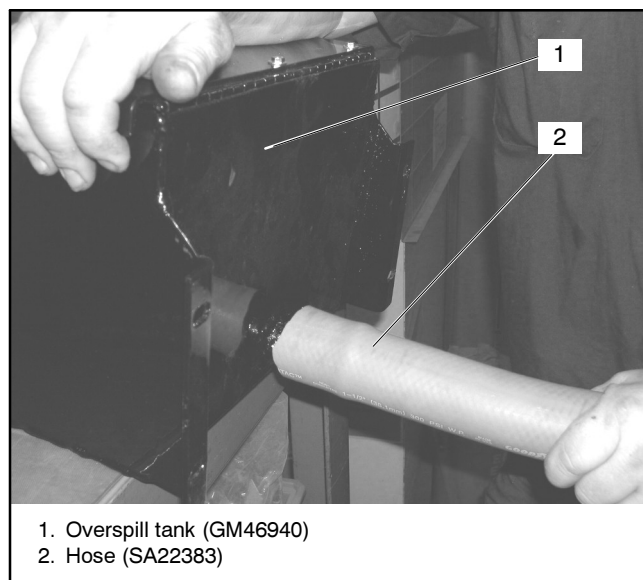

Figure 12 Hose SA22383 Connection to Overspill Tank Tube GM46940
2.1.12 Slide hose SA22383 onto overspill tank tube GM46940. See Figure 12.